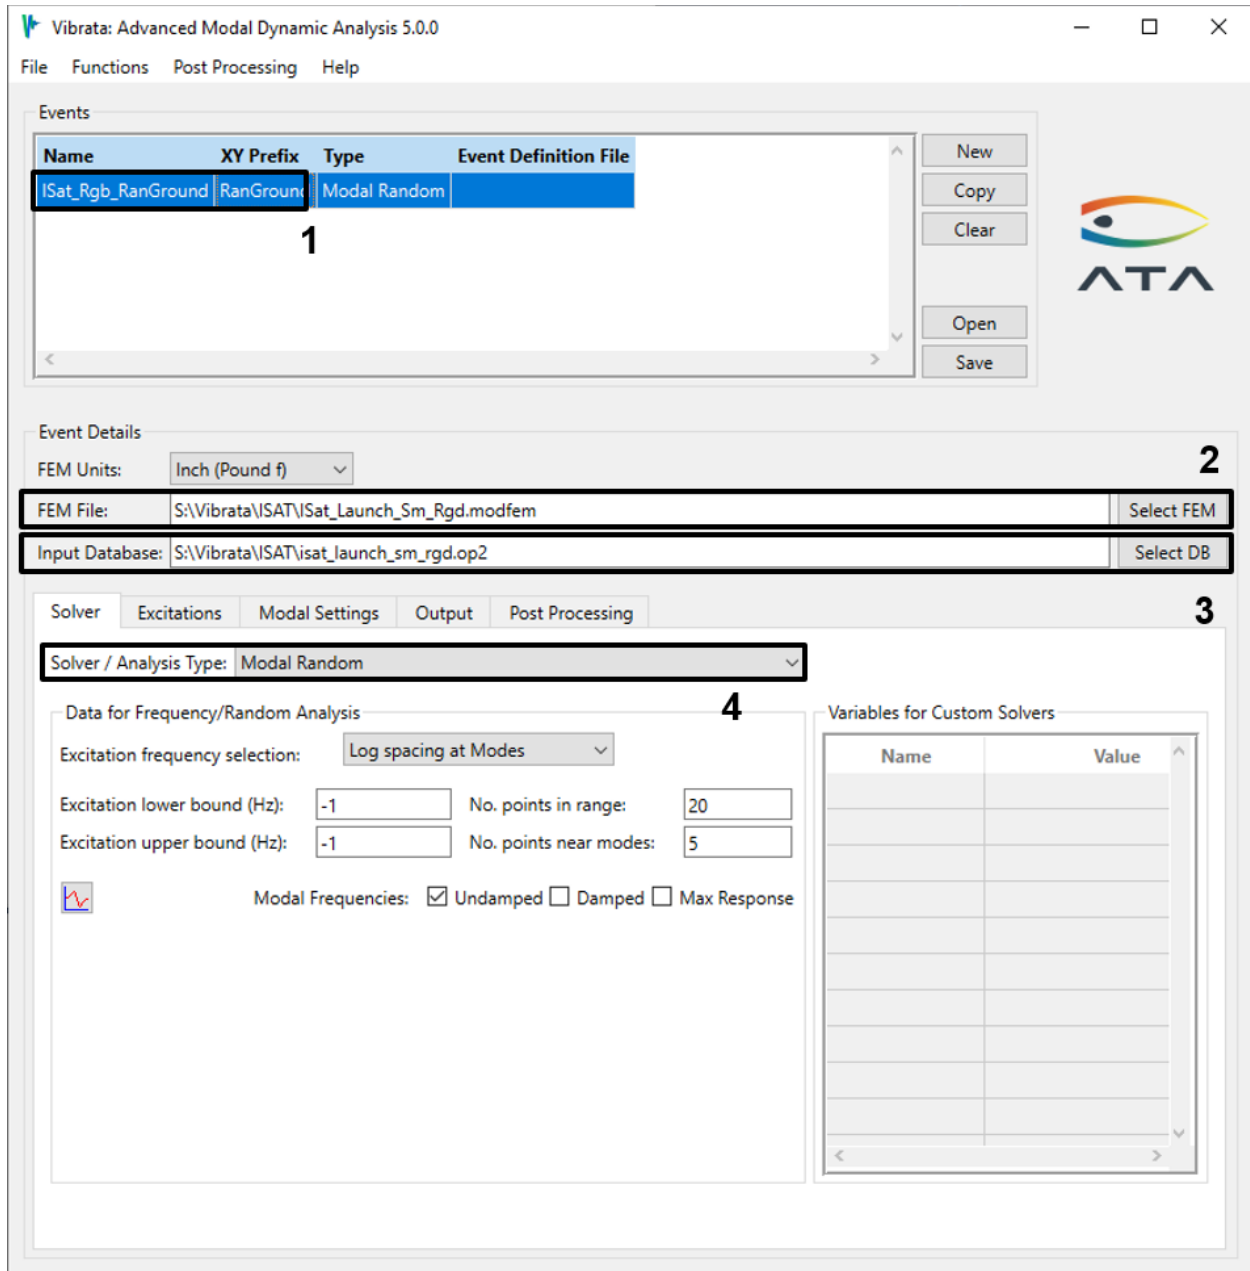

Figure 4-40. Create a new random analysis event.
2. Start a new event using the previously created modfem for the FEM and "isat\_launch\_sm\_rgd.op2" for the results. Set the *Solver/Analysis Type* to *Modal Random*. Be sure to enter a recognizable event name (Figure 4-40).